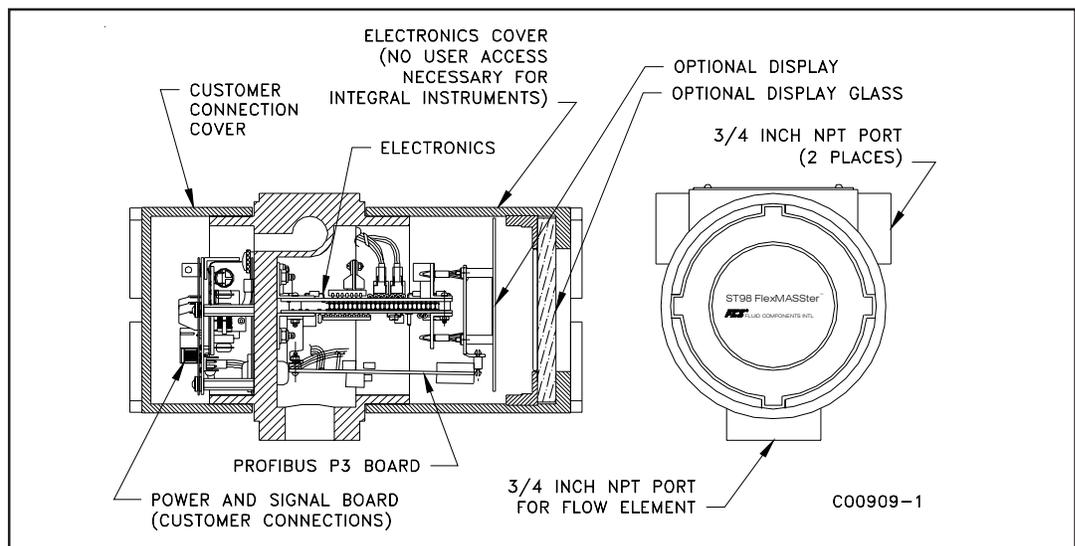
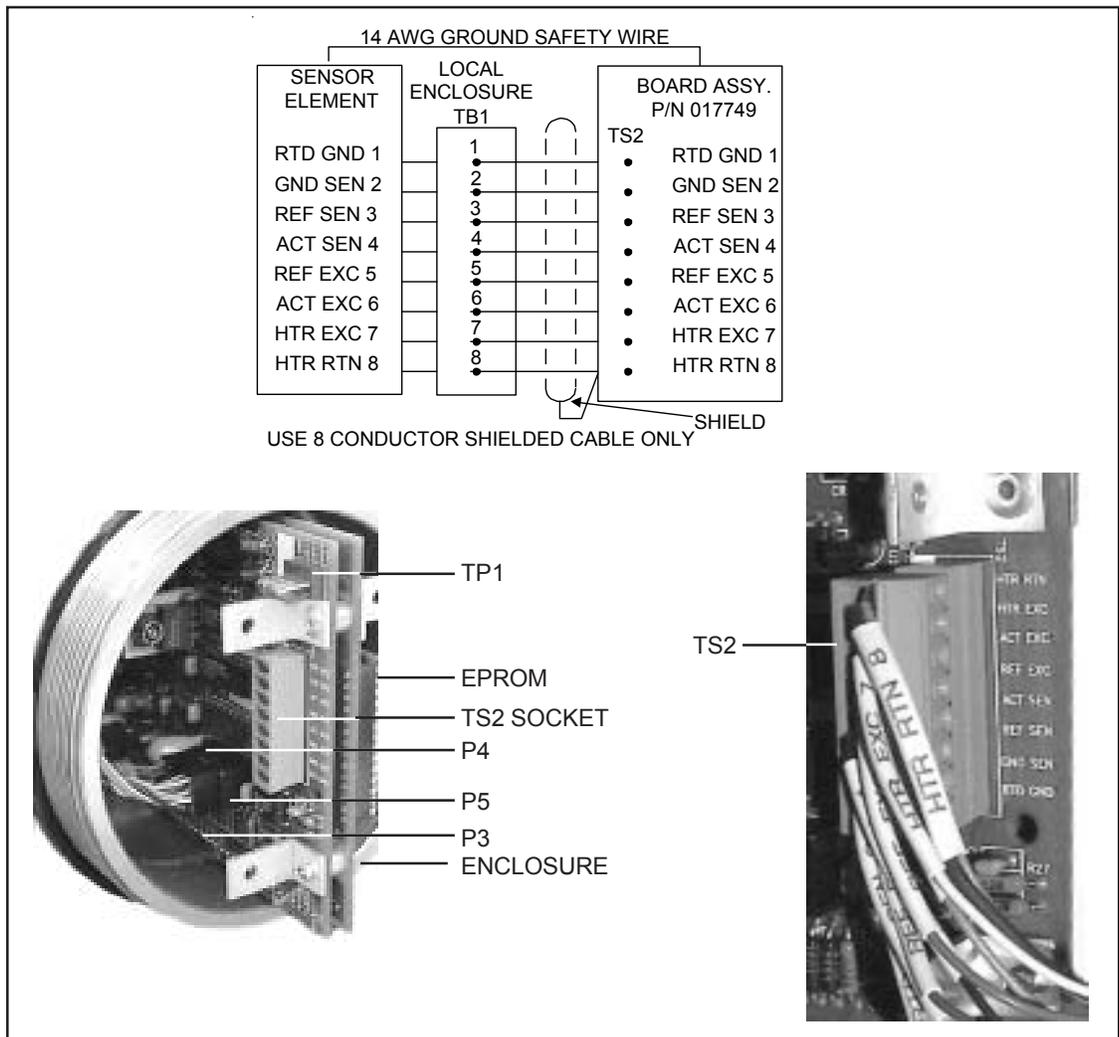

Figure 5. Circuit Board Placement
Figure 7. Remote Wiring Diagram
1. Remove the customer connection cover from the instrument by loosening the Allen head screw at the base of the cover. Unscrew the cover shown in Figure 5.
9. For remote instruments only: The flow element wires should be routed through the 3/4 inch NPT port for the flow element as shown in Figure 5. Connect the flow element wires to TS2 on the electronics assembly according to Figure 7. Connect the cable shield to HTR RTN. Leave the other end of the shield floating. A 14 AWG (1.85 mm) ground wire should also be routed between the enclosures (wire terminals are supplied in the kit).
NOTE: Connecting the shield in any other way will decrease the accuracy of the instrument. See Figure 7 for the wiring diagram.
8. For remote instruments only, (the flow element is in a separate enclosure from the electronics): The flow element wires should be routed through the 3/4 inch NPT port for the flow element as shown in Figure 8. Connect the flow element wires to TS2 on the electronics assembly according to Figure 7. Connect the cable shield to HTR RTN. Leave the other end of the shield floating.